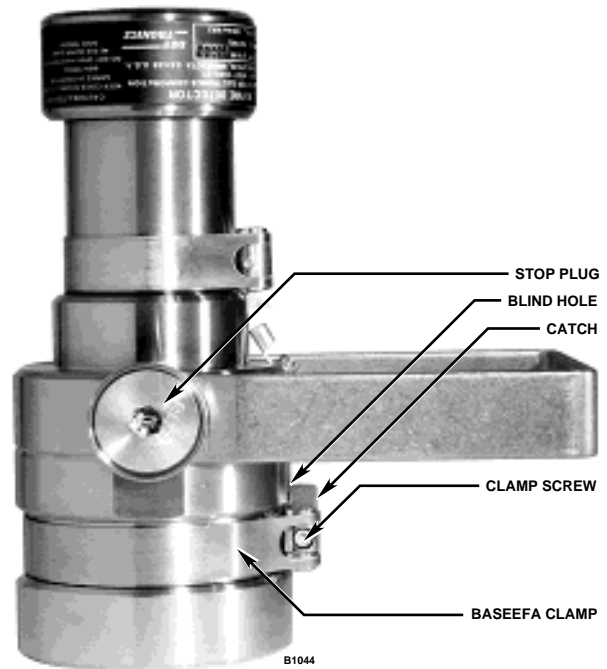

Figure 13—BASEEFA Approved Cover Locking Clamp
3. If the detector is equipped with cover locking clamps, loosen the clamps with a 5/32 hexagonal (Allen) wrench and move the clamp "catches" out of the blind holes located in the bulkhead. See Figure 13.
ratings. If the detector is equipped with cover locking clamps, loosen the clamps sufficiently so that the clamp catches can be seated in the blind holes on the bulkhead. Then fasten the clamps securely around the sensor housing and the terminal housing by tightening with a 5/32 inch hexagonal (Allen) wrench. See Figure 13.